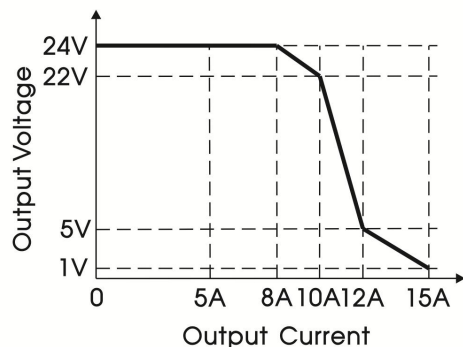

Figure 3
2. Figure 3 shows that the product will enter the overload state when the rated output current increases to 100%-150%Io (TYP.), and enter the overcurrent protection when the current > 150%Io (TYP.), and the output voltage will decrease with the increase of the output current. When the output current increases to a certain value, the product will enter the constant current mode;